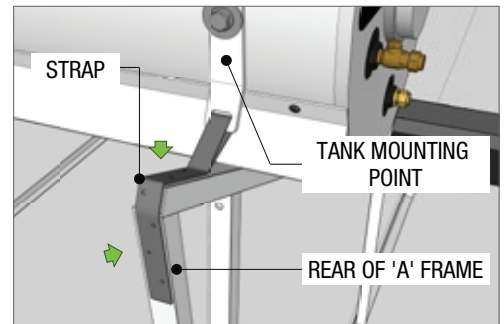

Fig 8
13. Fix the straps along and down the 'A' frame using the supplied screws to secure the tank (Fig 8)